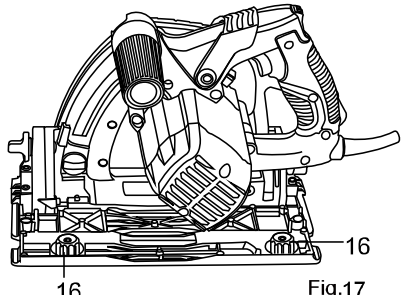

Fig.17
7. Set the Track Tension Adjusters (16) to the minimum tensions setting before placing the saw onto the track. (Fig.17)